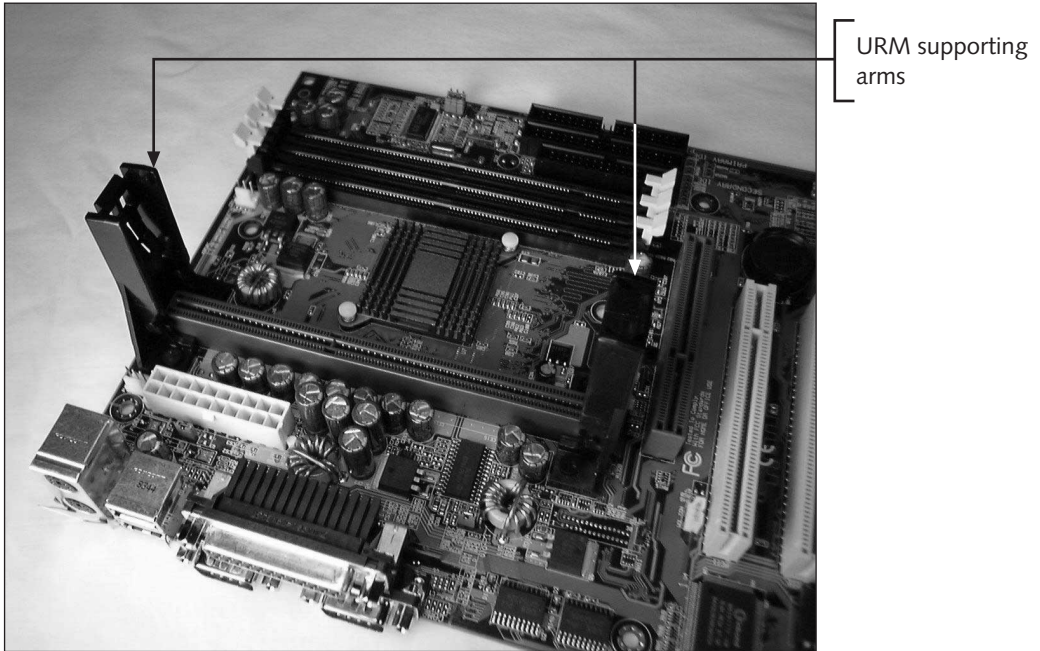

Figure 15-6 Preparing URM arms to receive the CPU. The arms are in the upright position.
- Unfold the URM arms. Flip both arms up until they lock into position (Figure 15-6).